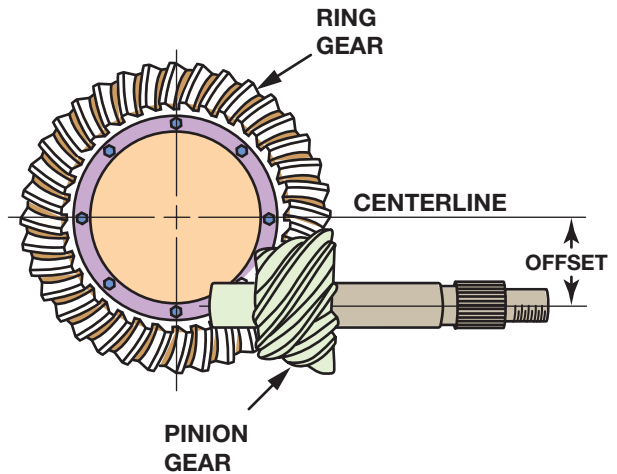

FIGURE 1-12 A hypoid gear set uses a pinion gear that is located below the centerline of the ring gear and is commonly used in drive axles.
- **Hypoid gear**—A variation of the spiral bevel gear is the hypoid gear, also called an *offset-bevel gear*. Hypoid gears are used in most drive axles and transaxles that have longitudinal mounted engines. The hypoid gear design places the drive pinion gear lower in the housing (below the centerline) of the ring gear and axle shafts. ● **SEE FIGURE 1-12.**